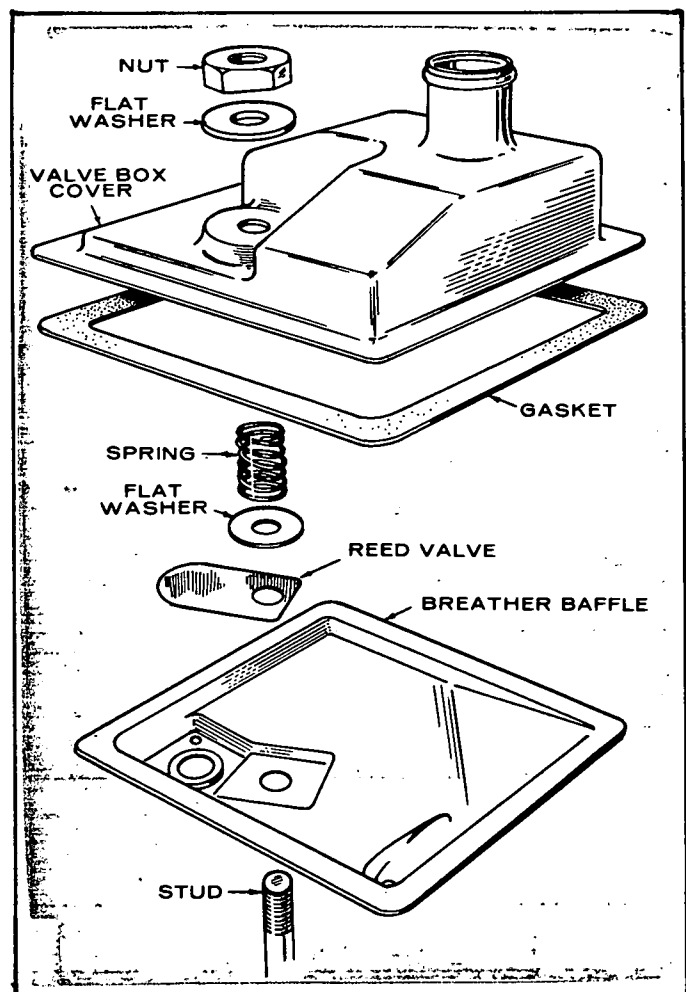

FIGURE 4 BREATHER VALVE ASSEMBLY
4. Crankcase Breather: This engine uses a crankcase breather valve for maintaining crankcase vacuum. No maintenance is generally required. If the crankcase becomes pressurized as evidenced by oil leaks at the seals, clean baffle and valve in a suitable solvent. See Figure 4.